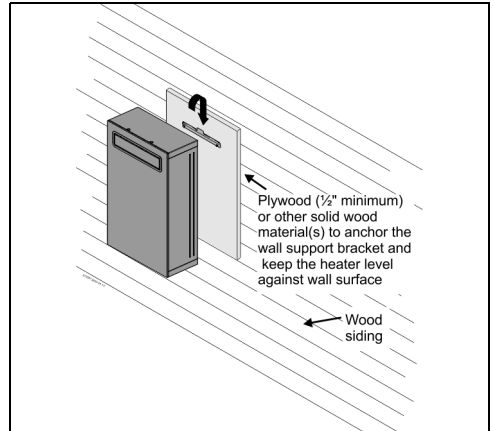

Fig. 6 Installation on wood siding
- ▶ The water heater is approved for installation directly on an outside wall. Secure the wall mounting bracket provided with the water heater to a wall surface. See fig. 6.